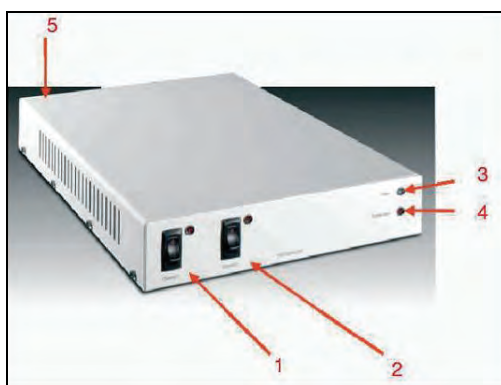

Figure 22: Leica APD detector unit
Two APDs (of type AQR from Perkin Elmer) are located in the Leica APD detector unit (**Figure 22**). They are linked to the X1 port adapter on the scan head using optical fibers. At the APD detector unit, the APDs can be switched on independently of one another (**Figure 22, item 1 and 2**). In addition to the switches for the APDs, the front side of the control unit also includes indicators for the power supply (**Figure 22, item 3**). The power switch itself is on the rear of the APD detector unit (**Figure 22, item 5**).